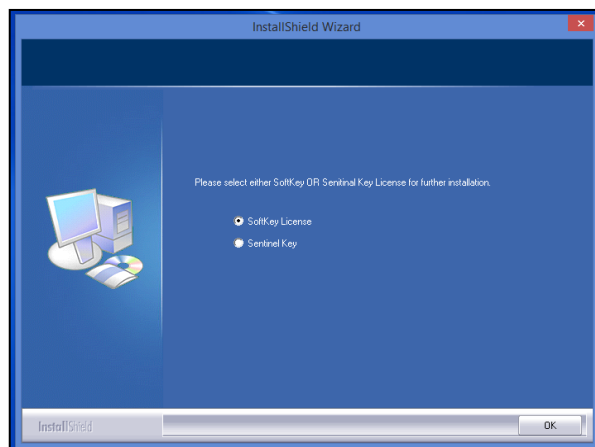

Figure 6. Software Key License
- a. If the user has a HunterLab USB hardware key, then it can be used with a new sensor on the same computer. Return to Install the Software, Step 5 (Figure 6) and select the Sentinel Key to continue.